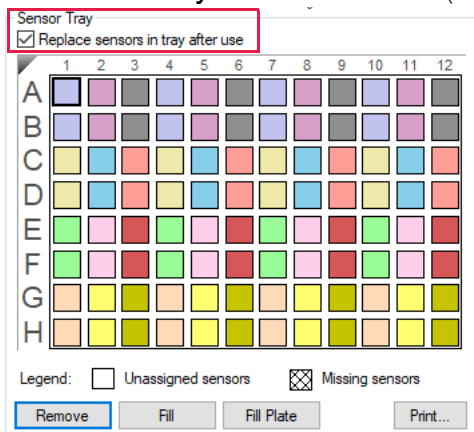

Figure 5-41: Replace Sensors in Tray After Use Check Box
10. Optional: After an assay is completed, the biosensors can be returned to the biosensor tray or ejected through the biosensor chute to an appropriate waste container. To return the biosensors to the tray, click the **Replace sensors in tray after use** check box (see Figure 5-41).